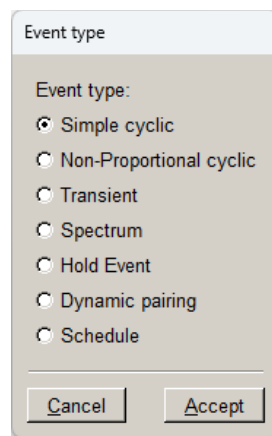
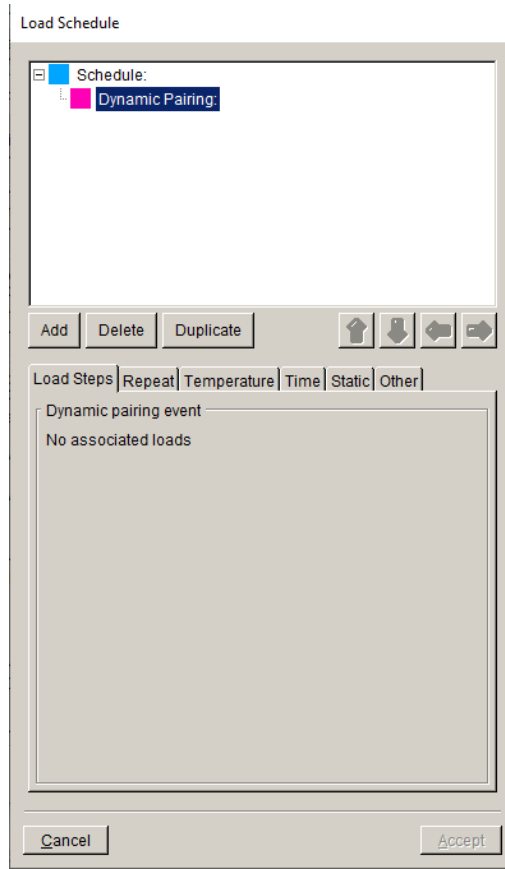
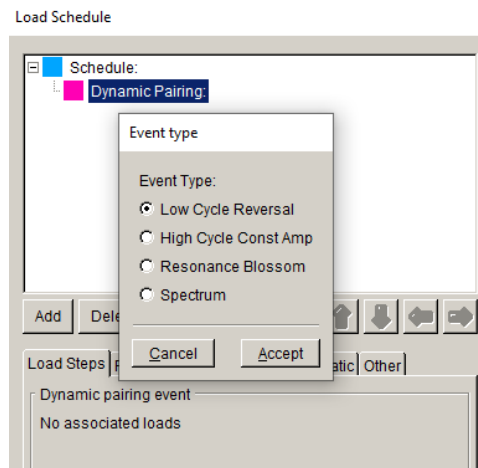

Figure 6.5.11 The event type dialog.
Figure 6.5.29. Dynamic Pairing load event added to the root schedule.
Figure 6.5.30 Dynamic Pairing event types.
Select the **Add** button to display the Event Type dialog, Fig 6.5.11. There are seven different types of event:
If the user chooses a Simple Cyclic load type (see Fig 6.5.11), the lower portion of the Load Schedule dialog appears as in Fig 6.5.19. The user can specify a given Stress ratio (R) and then specify the load step (and substep if there is more than one) along with a load multiplier. The stress ratio (R) will be used to compute K_{min} and ΔK values.
If the user chooses a Non-Proportional Cyclic load type (see Fig 6.5.11), the lower portion of the Load Schedule dialog appears as in Fig 6.5.20. The user must specify the load step (and substep if there is more than one) along with a load multiplier for both $K_{\max}$ and $K_{\min}$; stress ratio and ΔK are computed from these, and kink angle is based on ΔK or $K_{\max}$.
If the user chooses a Transient load type (see Fig 6.5.11), the lower portion of the Load Schedule dialog appears as in Fig 6.5.21. The user must specify the load steps (and substeps if more than one) along with load multiplier, Fig 6.5.22 – left side. If multiple load steps are to be analyzed, use the **Multiple Steps** button to select the load steps, Fig 6.5.22 – right side. FRANC3D computes the $K_{\max}$ and $K_{\min}$ values from all the selected load steps; stress ratio and ΔK are computed from these, and kink angle is based on ΔK or $K_{\max}$.
If a user chooses a Spectrum load type (see Fig 6.5.11), the lower portion of the Load Schedule dialog appears as in Fig 6.5.23. The user must specify the load steps (and substeps if more than one) along with a load spectrum; multiple spectra can be used.
If the user chooses a Hold load type (see Fig 6.5.11), the lower portion of the Load Schedule dialog appears as in Fig 6.5.28. The user must specify the hold time and the load step. The hold time was described previously as part of the root schedule; see Section 6.5.1.3.
If the user chooses a Dynamic Pairing load type (see Fig 6.5.11), the Load Schedule dialog appears as in Fig 6.5.29. Once the event is added, select this event (with a left click), and click the **Add** button to display the dialog shown in Fig 6.5.30. This dialog allows one to build up a series of events within the Dynamic Pairing event.